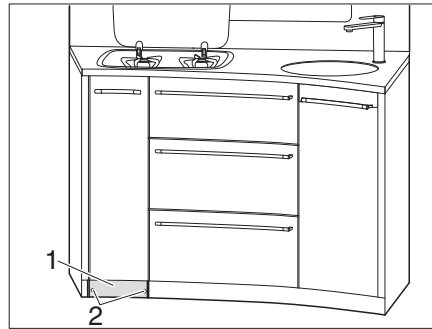

Fig. 125 Unscrewing skirting board
- Unscrew 2 screws (Fig. 125,2) from the skirting board (Fig. 125,1).
- Remove the skirting board (Fig. 125,1).